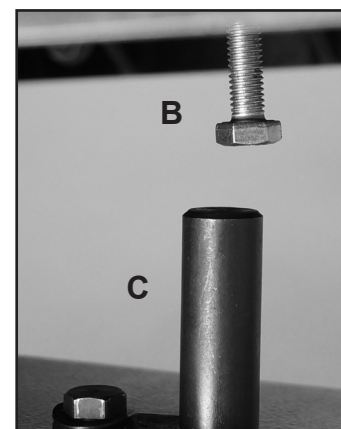

FIGURE 12
1. First loosen the bolt's Locking Nut (#8B) Fig. 12, A.
3. Adjust the bolt (Fig. 12, B), up or down, until it is in contact with the pivoting Table Angle Stop Block (#62A) Fig. 12, C. Retighten the locking nut making sure that the table angle setting is maintained.